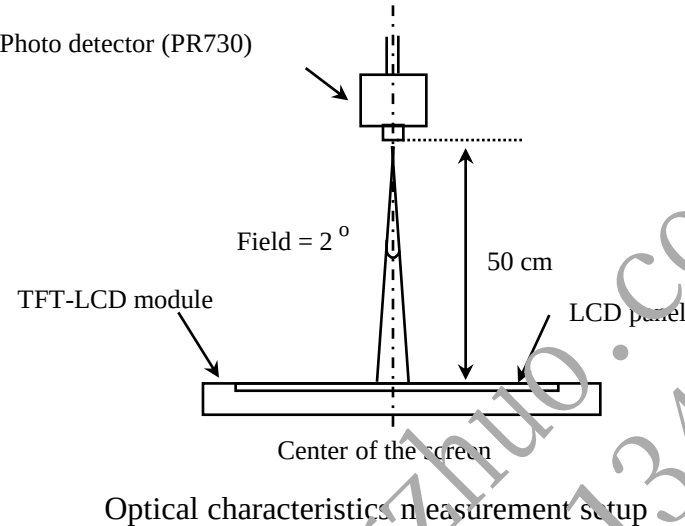
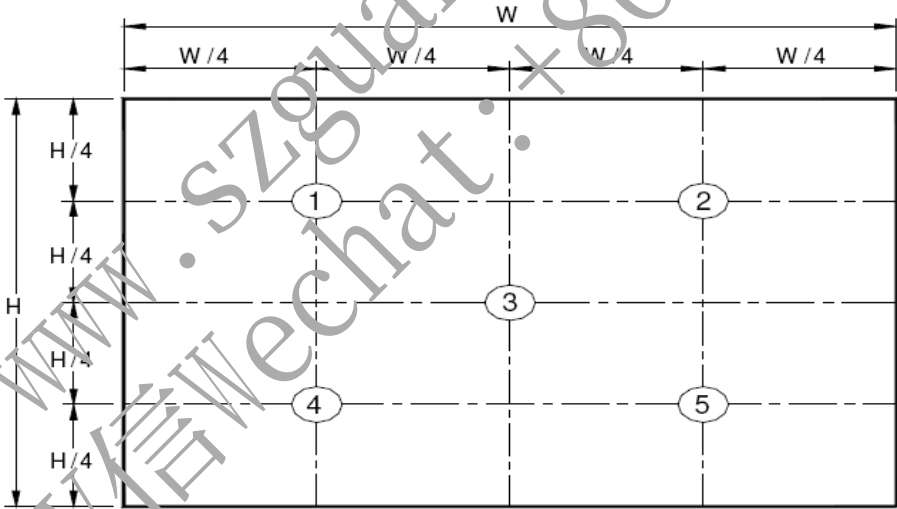
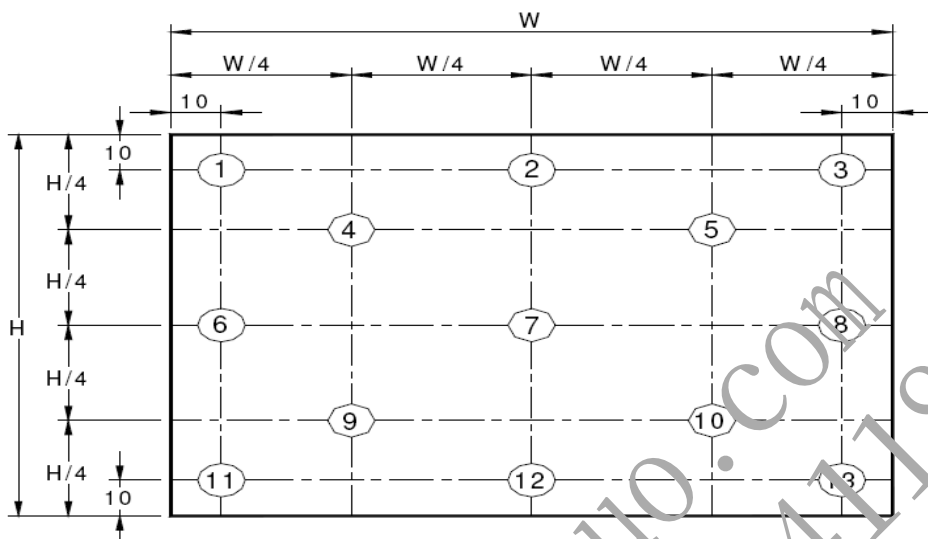

Figure 7. Measurement Set Up
Figure 8. White Luminance and Uniformity Measurement Locations (5 points)
Figure 9. Uniformity Measurement Locations (13 points)
| <p>Notes :</p> <ol style="list-style-type: none"> <li>Viewing angle is the angle at which the contrast ratio is greater than 10. The viewing angles are determined for the horizontal or 3, 9 o'clock direction and the vertical or 6, 12 o'clock direction with respect to the optical axis which is normal to the LCD surface (see Figure 7).</li> <li>Contrast measurements shall be made at viewing angle of <math>\Theta = 0</math> and at the center of the LCD surface. Luminance shall be measured with all pixels in the view field set first to white then to the dark (black) state . (see Figure 7) Luminance Contrast Ratio (CR) is defined mathematically. <div data-bbox="282 672 1071 763" data-label="Equation-Block"> <math display="block">CR = \frac{\text{Luminance when displaying a white raster}}{\text{Luminance when displaying a black raster}}</math> </div> </li> <li>Center Luminance of white is defined as luminance values of 5 point average across the LCD surface. Luminance shall be measured with all pixels in the view field set first to white. This measurement shall be taken at the locations shown in Figure 8 for a total of the measurements per display.</li> <li>The White luminance uniformity on LCD surface is then expressed as : <math>\Delta Y = \text{Minimum Luminance of 5(or 13) points} / \text{Maximum Luminance of 5(or 13) points.}</math>(see Figure 8 and Figure 9).</li> <li>The color chromaticity coordinates specified in Table 5 shall be calculated from the spectral data measured with all pixels first in red, green, blue and white. Measurements shall be made at the center of the panel.</li> <li>The electro-optical response time measurements shall be made as Figure 10 by switching the “data” input signal ON and OFF. The times needed for the luminance to change from 10% to 90% is <math>T_r</math>, and 90% to 10% is <math>T_f</math>.</li> <li>Cross-Talk of one area of the LCD surface by another shall be measured by comparing the luminance (YA) of a <math>10 \pm 1\text{mm}</math> diameter area, with all display pixels set to gray 127(of 0 to 255), to the luminance (YB) of that same area when any adjacent area is driven dark.The luminance ratio shall not exceed 1:1.05 (See Figure 11).</li> </ol> |                                                                                                     |                                    |                           |
Center Luminance of white is defined as luminance values of center 5 points across the LCD surface. Luminance shall be measured with all pixels in the view field set first to white. This measurement shall be taken at the locations shown in Figure 7 for a total of the measurements per display.
The White luminance uniformity on LCD surface is then expressed as :  $\Delta Y5$  = Minimum Luminance of five points / Maximum Luminance of five points (see Figure 8),  $\Delta Y13$  = Minimum Luminance of 13 points / Maximum Luminance of 13 points (see Figure 9).